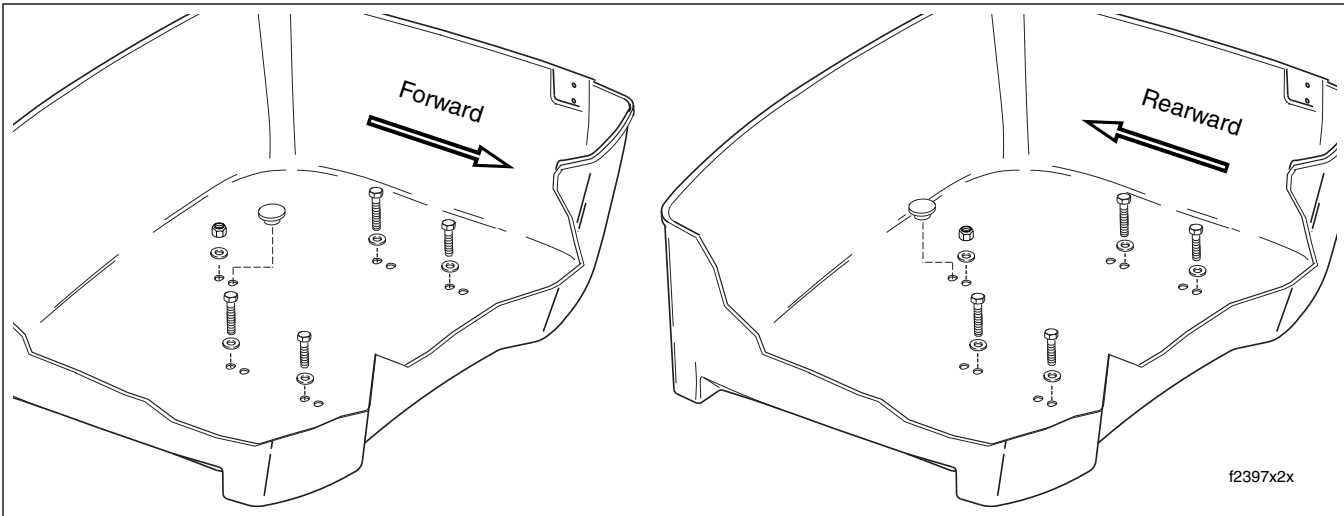

Figure 2-148. Adjust Position of Tour-Pak for Passenger Comfort
5. Move Tour-Pak to the forward/rearward position. See Figure 2-148.
11. From inside Tour-Pak, install plastic plug in unused rear center hole. See Figure 2-148.